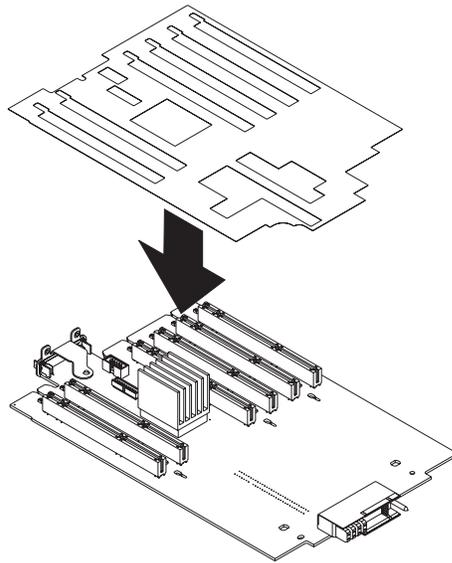

Figure 16. Installing the insulation shield
2. Lift the plastic cover-release latch on the top cover, as shown in figure 16.